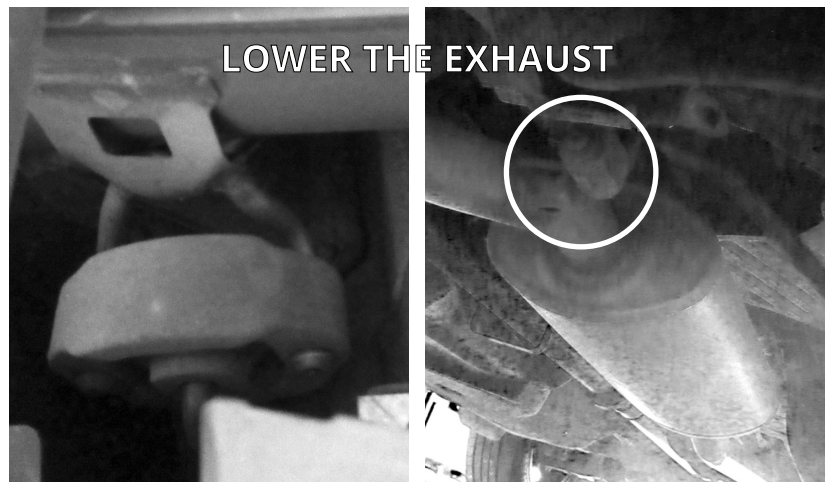

FIGURE A2: VIEWS UNDER THE VEHICLE
2. Attach a ratchet strap under the vehicle to support the exhaust. Above the exhaust are three rubber isolators, one in front of each muffler. Use a pry bar to disconnect the isolators from the exhaust, see Figure A2. Using the ratchet strap, lower the exhaust to gain access to the area above the exhaust.